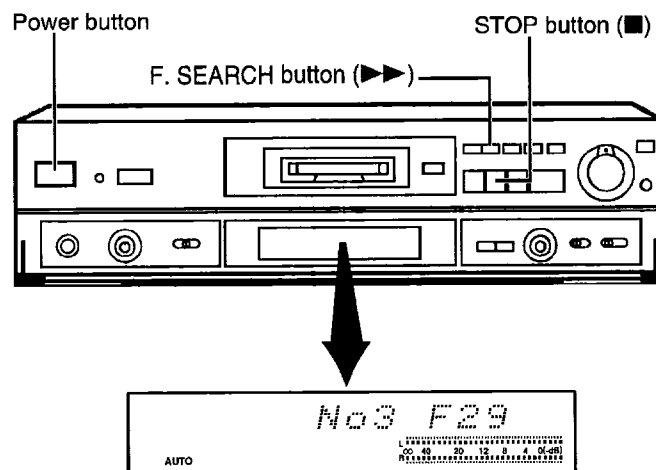

Fig. 6-1.
2. With no MD loaded in the unit, press and hold the STOP button (■) for at least 2 seconds. And then while still pressing the STOP button (■), press the F. SEARCH button (▶▶) for at least 2 seconds. The unit is set to the self-diagnostic function and is displayed "MD TEST". Then error code is displayed, if any. Refer to Fig. 6-1. For details of error codes, refer to Table 6-1.